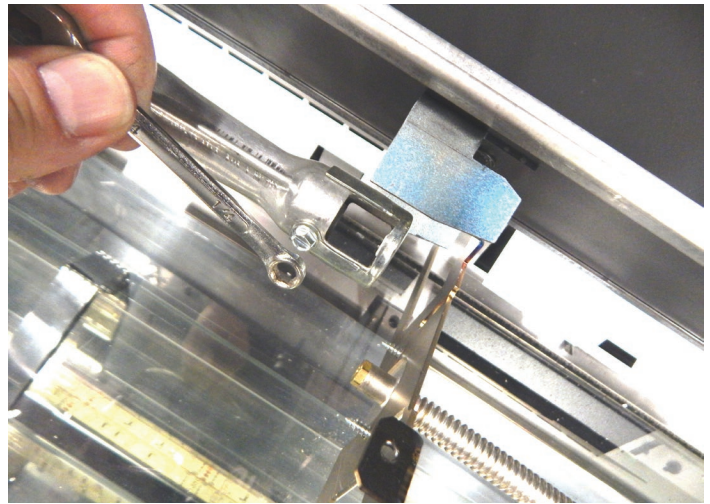

Figure 7
14. Using a 1/4" wrench, loosen the air shutter screw, then adjust the air shutter by rotating it to the fully open position. **See Figure 7.**